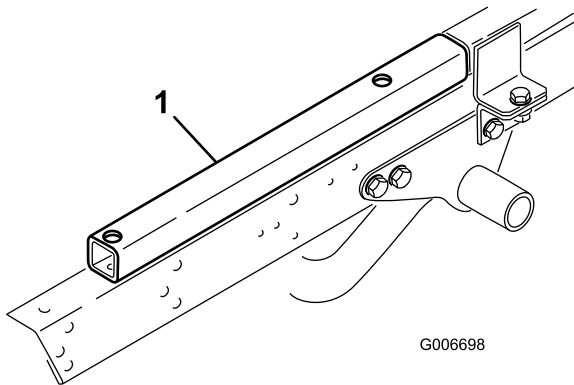

Figure 13
1. Remove any accessories mounted to top of frame in forward position such as a 1/3 bed, power platform, H.D. Hitch Frame extension tubes (Figure 13), etc.